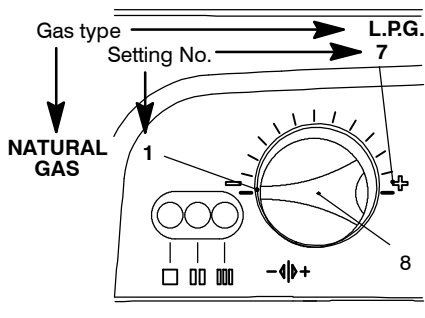

Fig. 8.8
At this step it is possible to visualize the current setting by keeping the reset button 6 pressed for more than 5 seconds. The lamps 9 will flash a number of times corresponding to the setting of the knob 8 in Fig. 8.8.
- 13 To change the setting turn the knob 8 on a position corresponding to the gas used as shown in Fig. 8.8.